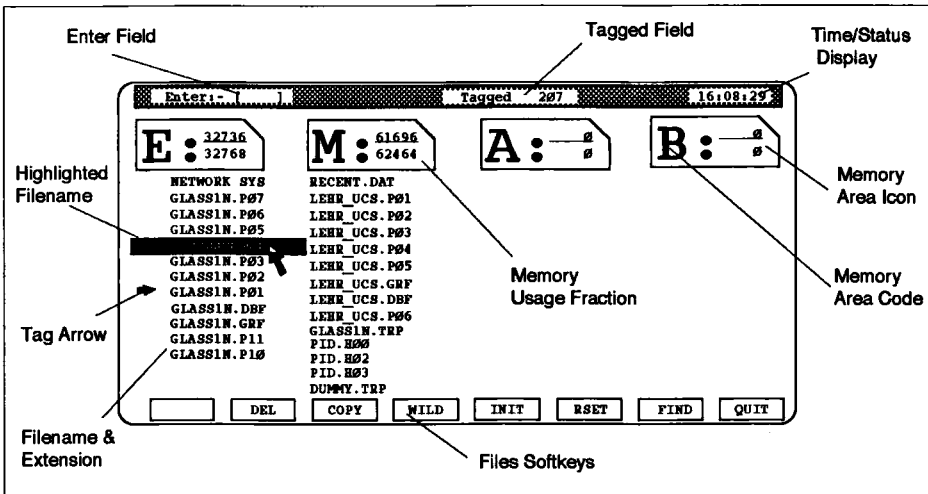

Figure 6.1 T1000 Files Screen (Part View)
**The Files Screen.** The FILES utility appears as a 'files screen', with a special set of softkeys, exemplified in Figure 6.1. The files screen lists the files stored in all memory areas in the local instrument, including any data cards inserted in either of T1000's two DTU front-panel drives, A and B. Files in a remote T1000 can also be accessed and listed via the INIT softkey.
Filenames are grouped into seven columns, one for each memory area, headed by icons showing the area codes, and a configurable code (?:?:?) for remote instruments. (In Figure 6.1, three more columns — ROM, 'Template ROM', and remote files — can only be seen by scrolling the viewing window to the right.)